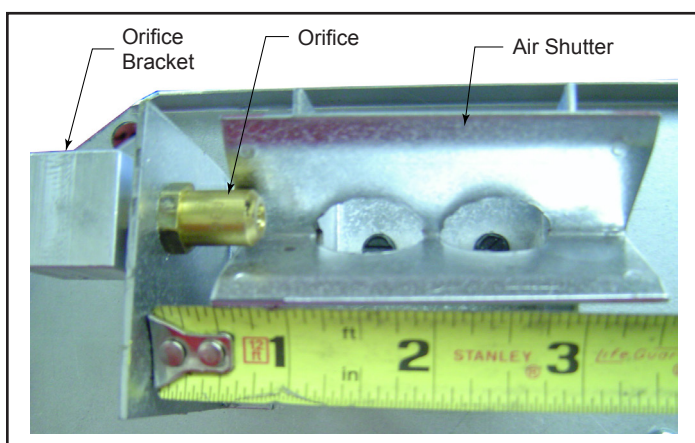

Figure 79 - The air shutter setting is 1/2" (13 mm) from the orifice bracket to the edge of the air shutter.
5. The air shutter is factory set and should not need adjusted. The air shutter opening may be verified by measuring as shown in Figure 79.
1. Remove the Front, Glass Frame and Glass Panel, Figures 79 and 80. Remove the old gasket. Use a razor blade to separate the glass and gasket from the frame, and to clean the glass of any remaining cement or bits of gasket. Use a cold chisel if necessary.